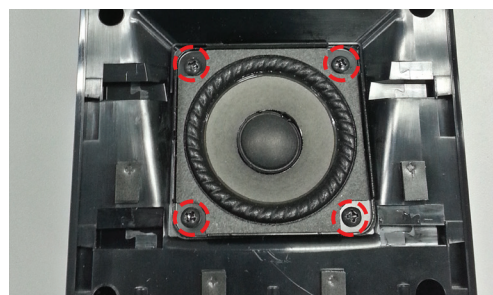

Figure 10. Transducer, Screws
3.1 Figure 10. Remove the 4 screws securing the transducer to the enclosure.